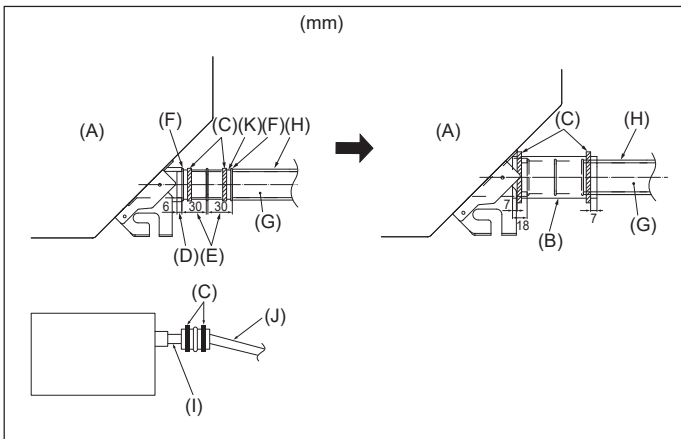

Fig. 6-2
1. Connect the drain socket (supplied with the unit) to the drain port. (Fig. 6-2) (Fix the tube using PVC adhesive then secure it with a band.)
- (A) Main unit
- (B) Insulating material
- (C) Band (large)
- (D) Drain port (transparent)
- (E) Insertion margin
- (F) Matching